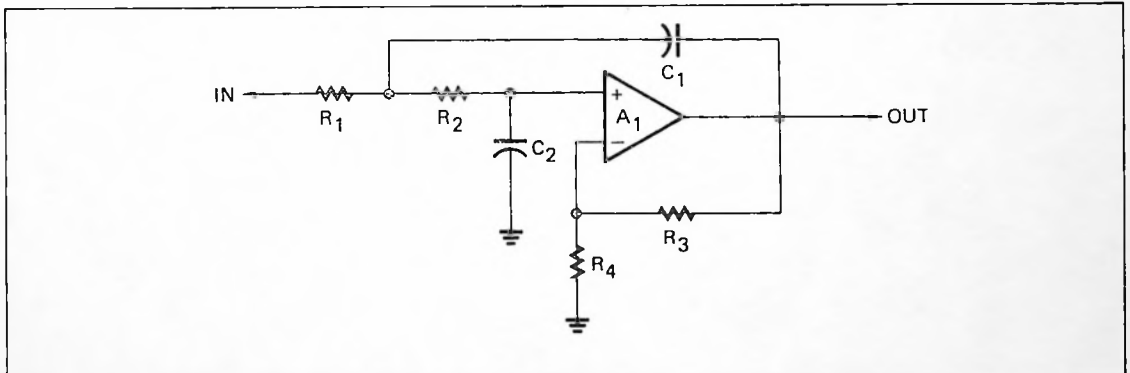

Figure A-1. Filter Section "A," Second-Order Lowpass.
A filter of any complexity (for operation in the frequency region below 100-kHz) can be constructed by using suitable combinations of four basic building blocks (filter sections). The following four filter sections are referred to in the appropriate circuit descriptions by the letter designations A, B, C, and D. These sections are shown schematically in Figures A-1 through A-4 as follows:
- a. Second-order lowpass section "A" (Figure A-1).